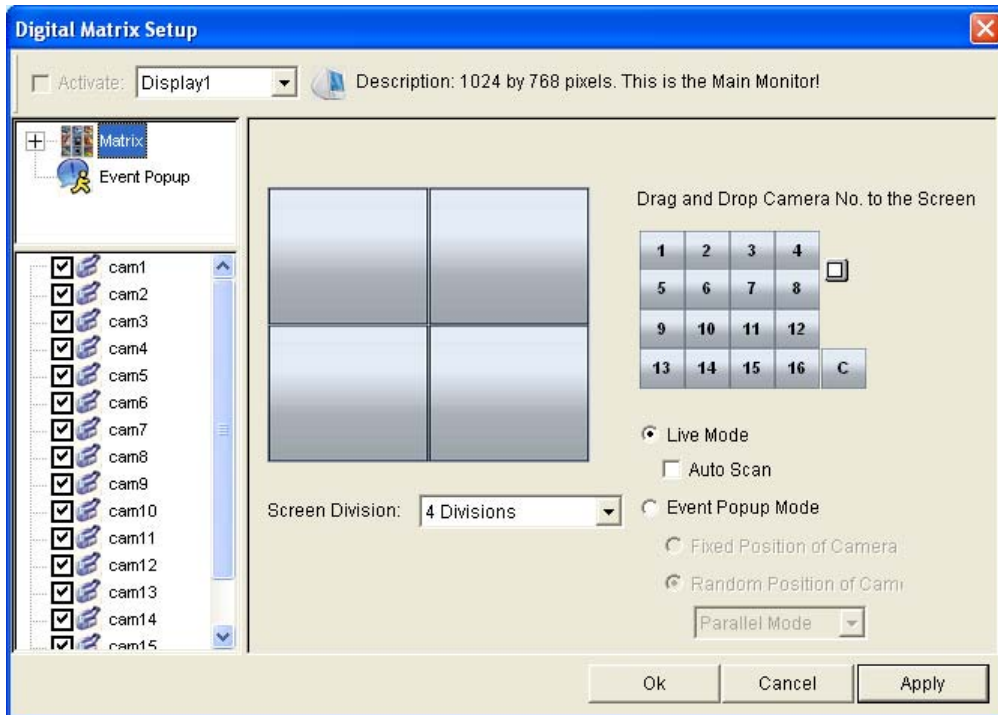

Figure 3-38
9. In the upper-left column, click the **Matrix** icon and return to Figure 3-38.
4. After above settings, click the **Matrix** icon and return to Figure 3-38.
4. Click the **Matrix** icon and return to Figure 3-38. Ensure the **Live Mode** option is selected.